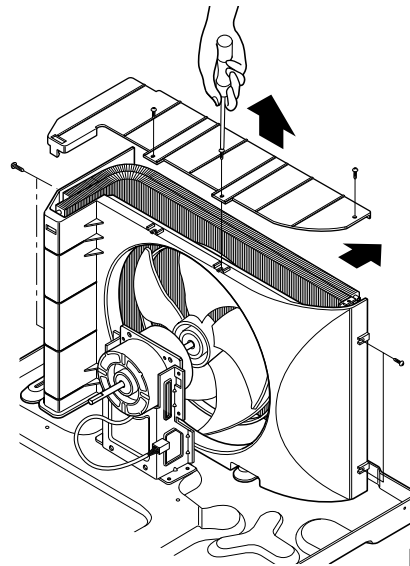

FIG. 15
6. Re-install the components by referring to notes. (See Fig. 15)